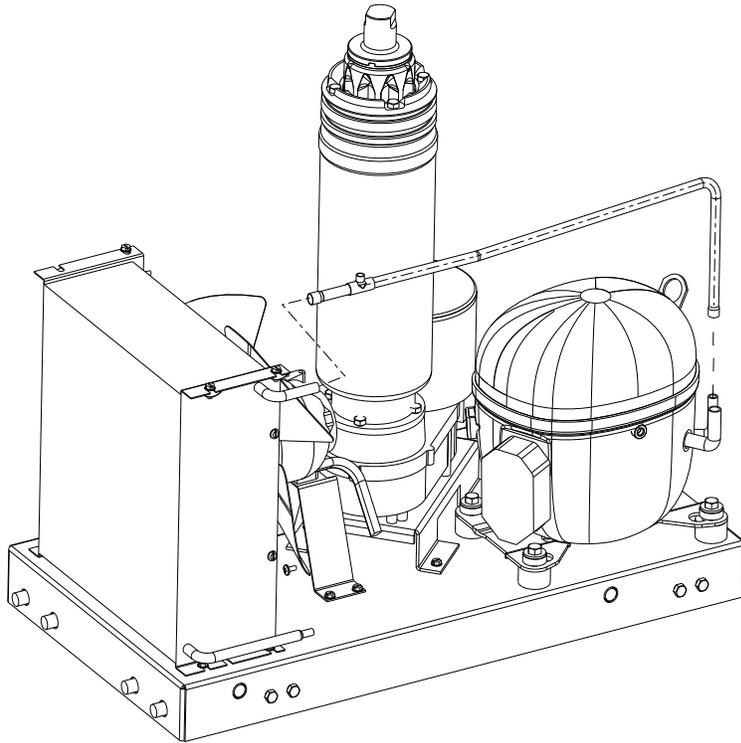

Figure 4. Connection of Discharge Tube
6. Release the Nitrogen from the Compressor. Connect the Discharge tube as shown in Figure 4.